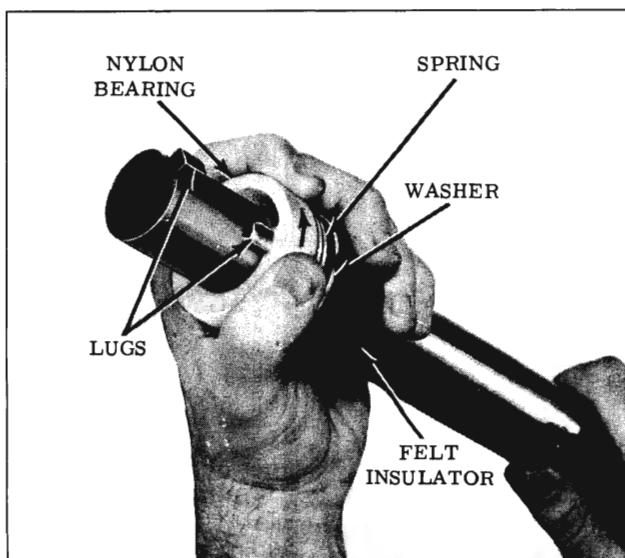

Fig. 4-296 Installing Nylon Bearing
3. Slide nylon bearing onto shift tube guiding it around the locator bosses. Push bearing onto the shaft far enough to compress the spring and rotate the bearing so that the second locator boss holds the bearing and spring in place. (Fig. 4-296)